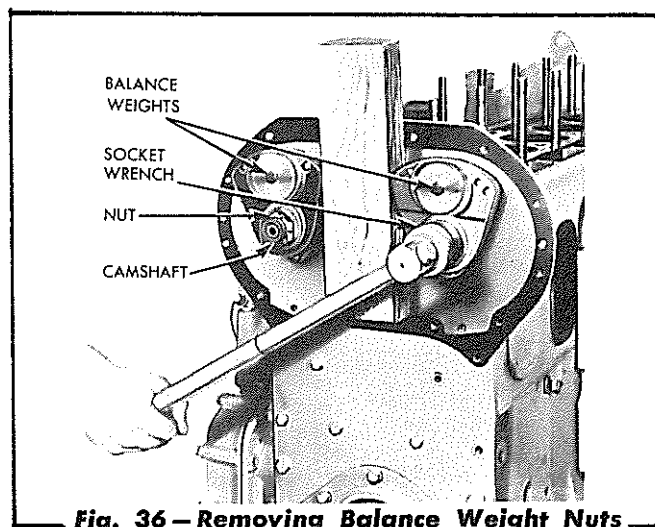

Fig. 36 — Removing Balance Weight Nuts
7. Wedge a block of wood between the balance weights, as shown in Fig. 36, and tighten the retaining nuts on both the cam and balance shafts to a torque of 300 to 325 ft. lbs.